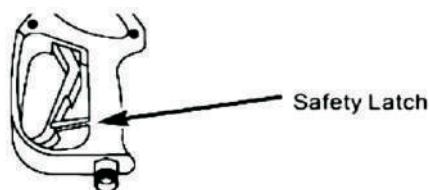

Fig 7. Spray Gun with Safety Latch Engaged
- 7). Engage safety latch to spray gun trigger (Fig 7).